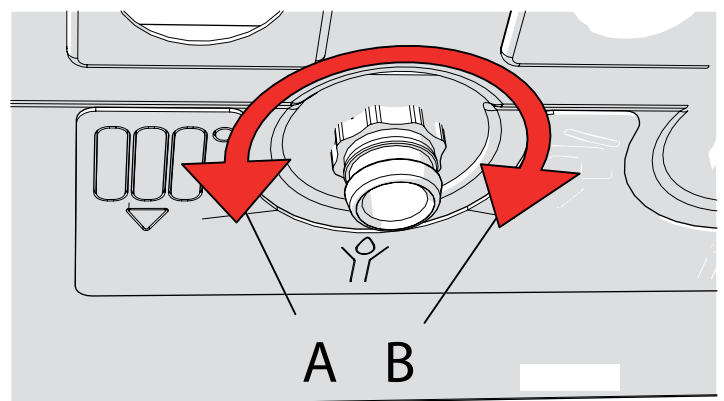

Figure 8.17 - Cocks opening and closing direction
- 6.- open the drain cocks "A" and "B" (see direction of rotation in figure 8.17);